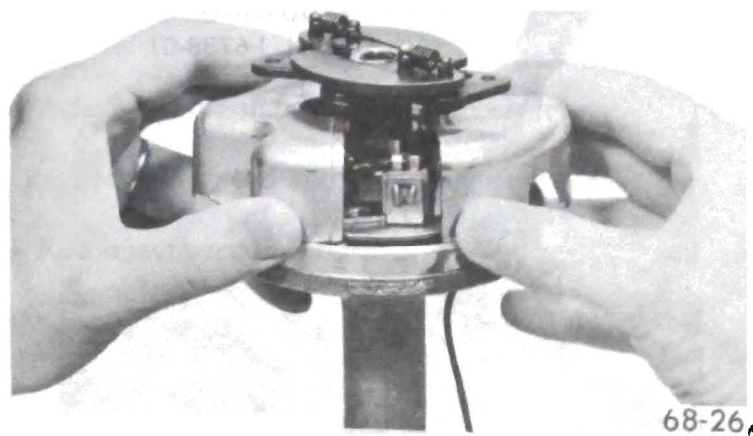

Figure 68-24 Removing Shield
3. Remove shield from distributor assembly. See Figure 68-24.